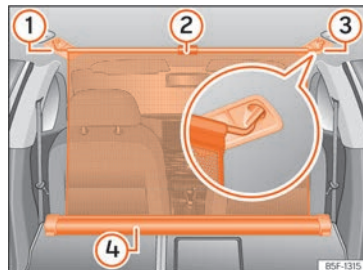

Fig. 144 In the luggage compartment: net partition hooked in place with the rear seat backs folded down. »
- Pull up handle »» Fig. 144 ② to remove the net from the casing »» Fig. 144 ④.
- Hook in the net partition on the right or left side »» Fig. 144 ③ (magnified image).
- Hook in the net partition into the housing on the other side »» Fig. 144 ① by pulling the rod.
The net partition is properly assembled when the T-shaped ends are firmly secured in the corresponding housings »» Fig. 144 ③ and ①.
- Roll up the net into the casing »» Fig. 144 ④ lowering it with your hand.